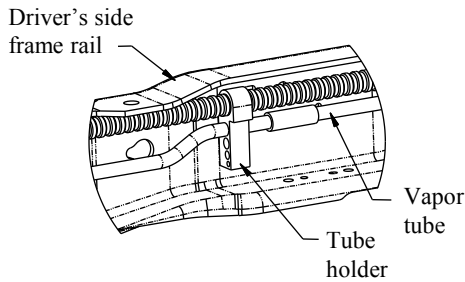

**Figure 1**
7. Loosely install the frame brackets by aligning the brackets with holes in the frame. Insert M14 bolt and washer(1) into slots in the bracket and through the holes in the frame. Install the M14 nut with retainer(2) on the bolt. Snug the bolts. Do not tighten.
9. Install the 1/2" x 2" long carriage bolts with the U-shaped spacer to be located in the corrugation between the box and the rails. **Note:** The U-shaped spacer will have to be installed before inserting the 1/2" carriage bolts through the mounting rail and box floor. This insures a metal to metal contact. Attach the carriage bolts on the ends of the rails with conical washers, and nuts as per the Figure 1 and tighten snug to keep the mounting rail from moving. Attach the carriage bolt in the middle with a conical washer and nut.